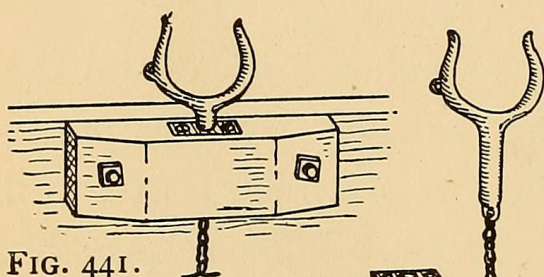
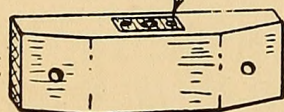
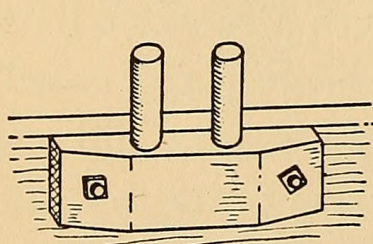
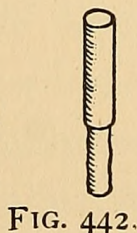

FIG. 441.
FIG. 440.
FIG. 443.
FIG. 442.
FIGS. 440 and 441. — Rowlocks.
FIGS. 442 and 443. — Thole-pins.
**Rowlocks.** A pair of galvanized wrought-iron rowlocks, of the form shown in Fig. 440, can be purchased for 25 or 30 cents, and it is an easy matter to make the socket blocks for them to set in (Fig. 441). Cut two blocks about 8 inches long,  $1\frac{1}{4}$  inches wide, and 2 inches thick; bevel the ends, and bore a  $\frac{1}{4}$ -inch hole near each
end for bolting, and a  $\frac{1}{2}$ -inch hole from the center of the top down through each for the rowlock to drop into. The socket plate (Fig. 440), which comes with the rowlock, should be set into the block flush with the top. Bolt the blocks to the sides of the punt (Fig. 441) so the centers will be 14 inches from the center of the center seat.
**Thole-pins** may be made and used as a substitute. Figure 442 shows a pin cut from a piece of broom-handle, and Fig. 443 shows how a pair of them should be set into holes bored in a block similar to those shown for the rowlocks. The holes for the pins should be placed about 3 inches apart.
**The Rowlock Blocks** should be prepared and attached as shown in Fig. 441 or Fig. 443, page 354, and either
**Rowlocks or Thole-pins** should be fitted into them (Figs. 440 and 442, page 354).